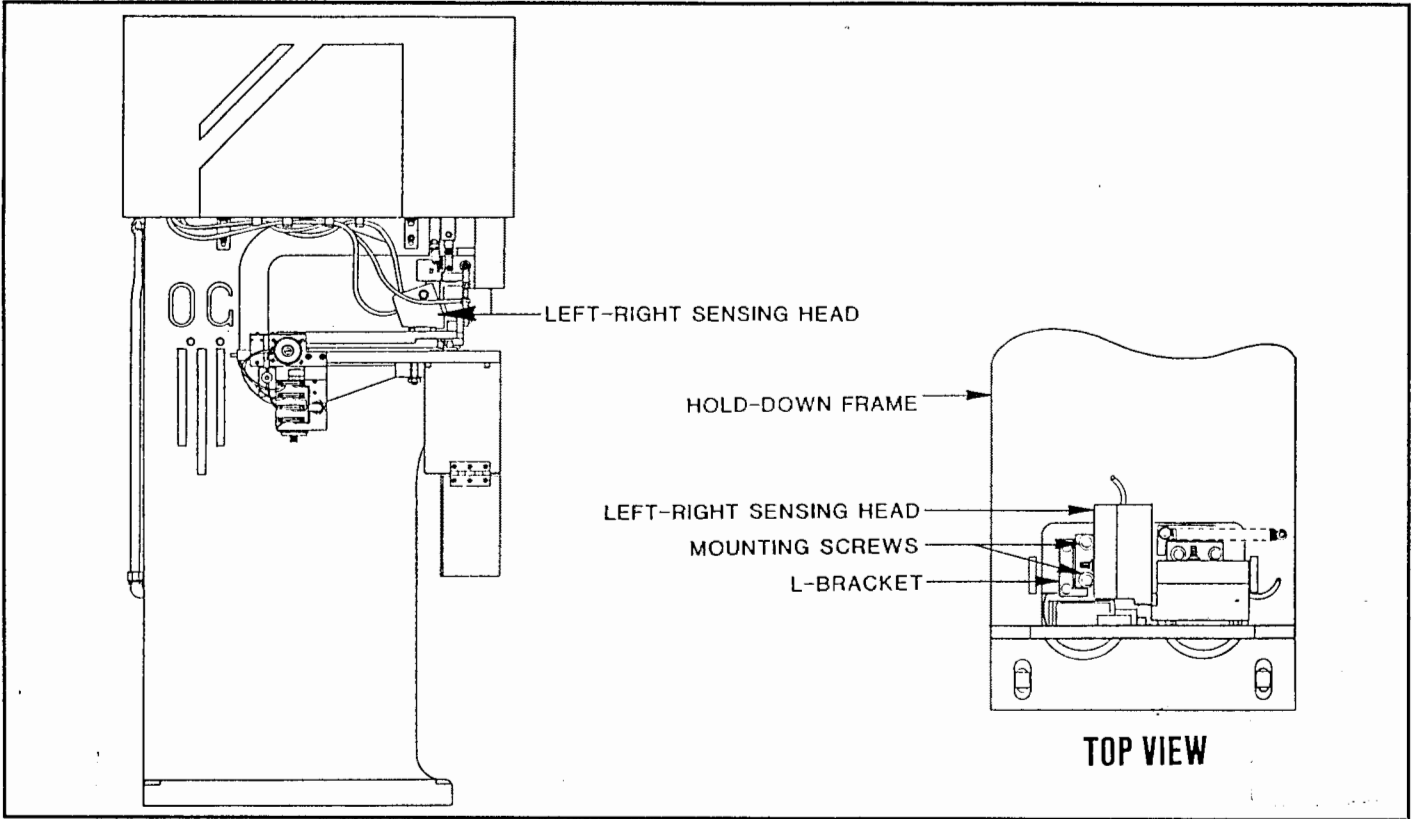

Figure 8.9 F
7. Unscrew in-out sensing head mounting screws and remove in-out sensing head. See Figure 8.9 G.